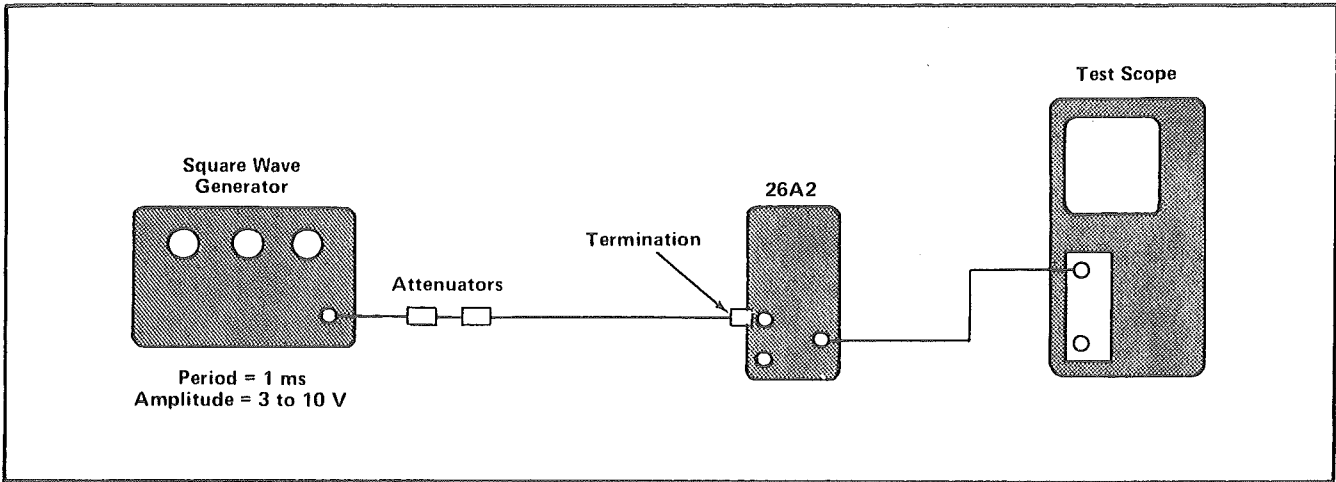

Fig. 5-7. Equipment setup for step 8.
a. Set up the test equipment as illustrated in Fig. 5-7.